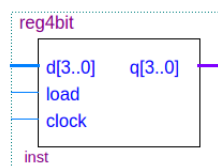

Figure 1.11: 4-bit data register symbol.
4. Convert the module into symbol file. Call it **reg4bit.bsf**. It should like Fig. 1.11.